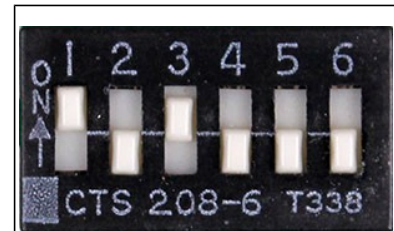

Fig. 53: Speed switch set for 6:1.
- ☐ Use a small screwdriver to slide the switches on S1 to select a 6:1 speed ratio, as shown in Fig. 53 (#1 and #3 on, #2, #4, #5, #6 off). Refer to Table 5 and Table 6 for other switch settings.